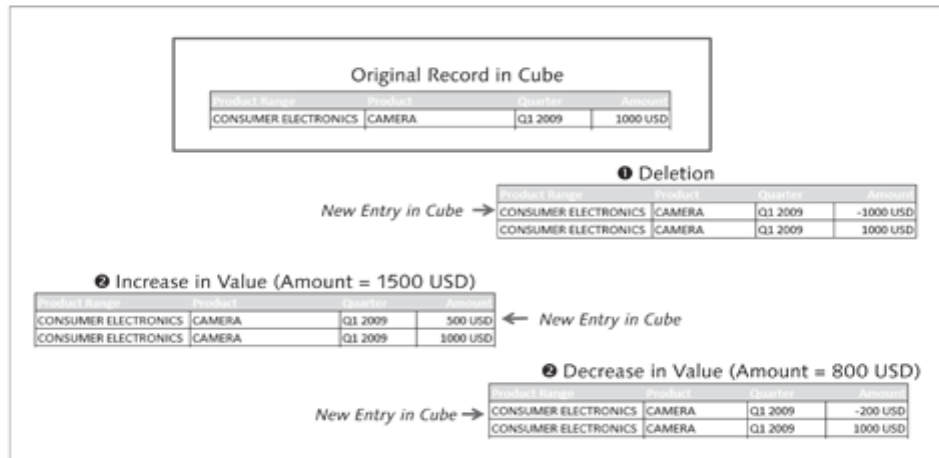

Figure 12.110 Data Changes in Planning Cube
This is explained with an example in Figure 12.110.
If a record is deleted from the plan data, the deletion is actually stored by creating an additional record with the selected key figure value reversed (❶ of Figure 12.110). If the key figure value for a record is increased (e.g., from \$1000 to \$1500), the change is stored in the cube by creating an additional record for the increased value, that is, \$500 (❷). Similarly, if the key figure value for a record is decreased (e.g., from \$1000 to \$800), the change is stored in the cube by creating an additional record for the decreased value, that is, -\$200 (❸).